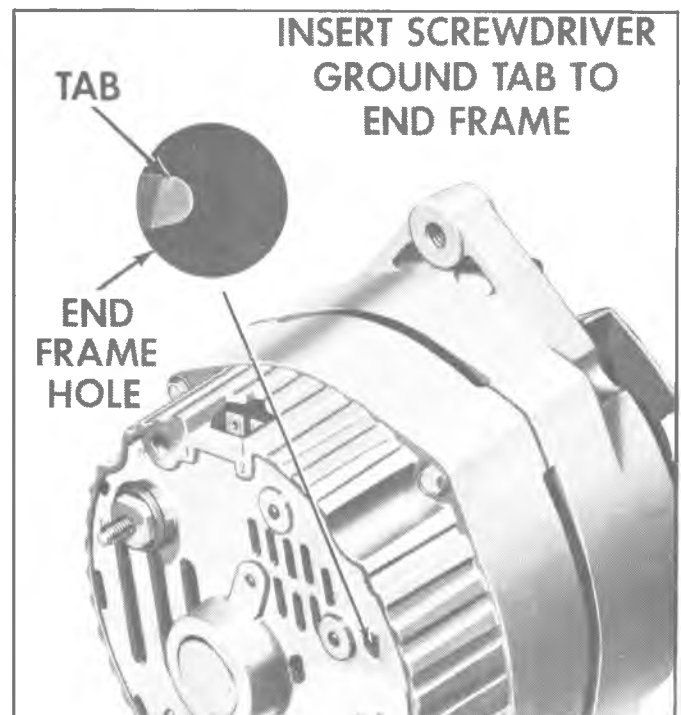

Fig. 7C—Delcotron End View
- If lamp lights, remove ground at No. 1 terminal and with No. 1 and No. 2 terminal leads connected at generator, insert screwdriver into test hold (fig. 7C) to ground winding.
- g. If ampere output is not within 10 percent of rated output, ground the field winding by inserting a screwdriver into the test hole (Fig. 7C).
7. If output is not within ten percent of rated output, ground generator field (Fig. 7C).